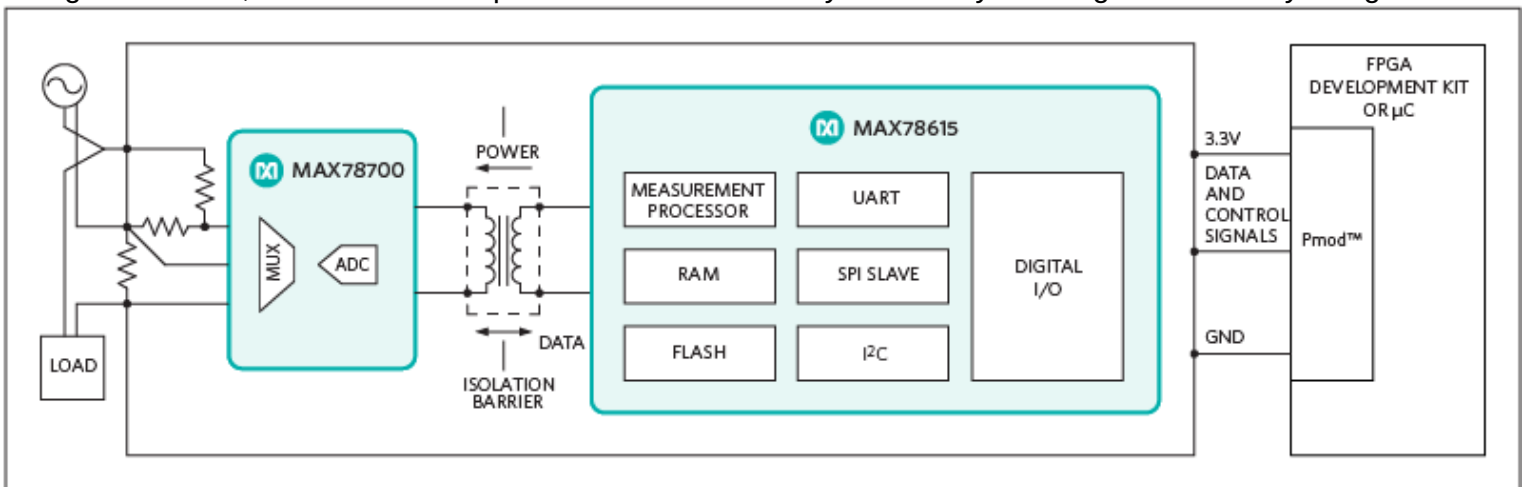

Figure 1. The Sonoma subsystem design block diagram.
**Figure 1** shows the block diagram of the Sonoma reference design. The system utilizes the isolated MAX78615+LMU measurement processor, a single MAX78700 data converter, and resistive sensors for measuring 2-wire AC loads up to 8A.